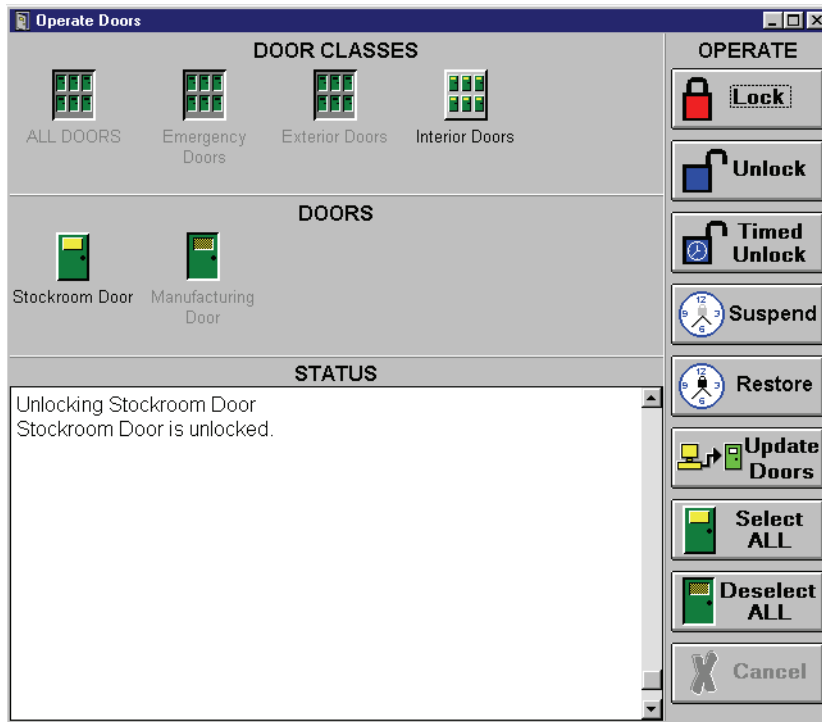

Figure 6-7: Unlocking a Single Door
3. Click on the  button. The resulting window will look similar to Figure 6-7.